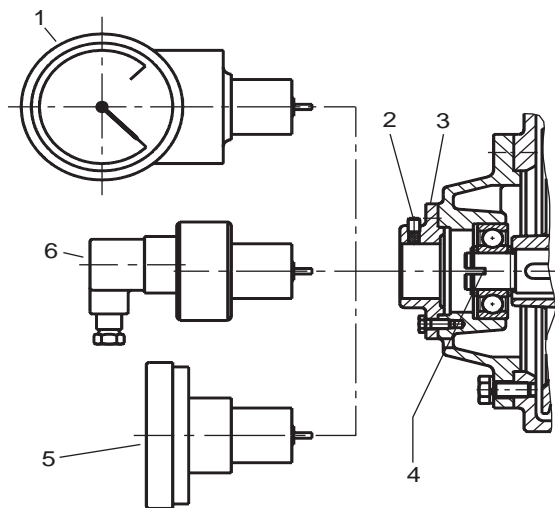

Figure 12: Installing AC encoder GW, right-angle tachometer TW, shaft tachometer TA
#### Installing the AC encoder GW (Figure 12)
The tachometers TW (1) and TA (5) can be installed instead of the AC encoder (Figure 12).